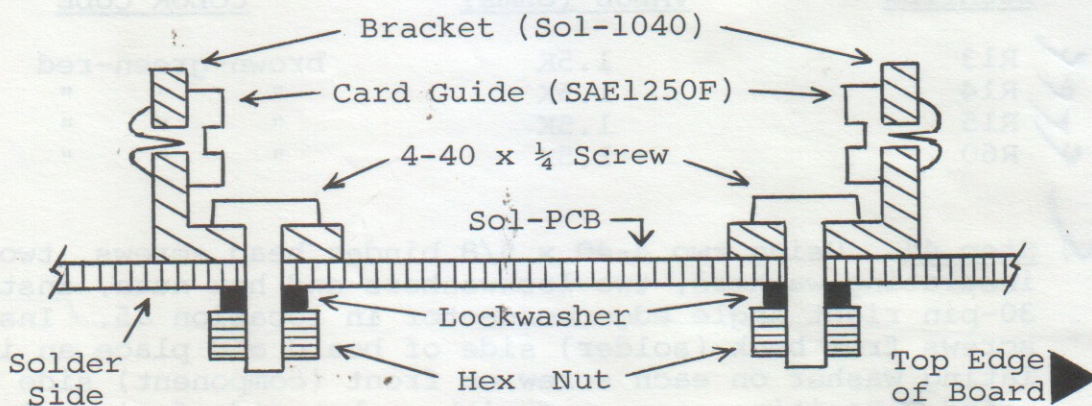

Figure 3-11. Personality module bracket/guide installation (Viewed from right end of Sol-PCB).
- (✓) Step 45. Using four 4-40 x $\frac{1}{4}$ binder head screws, lockwashers and hex nuts, install two brackets (Sol-1040) for personality module in area to right of J5. Position brackets over the mounting holes as shown in Figure 3-11. Insert screws from front (component) side of board, place lockwasher on each screw on back (solder) side of board, start nuts and tighten.
- (✓) Step 46. Attach plastic card guide (SAE1250F) to each of the brackets installed in Step 45. (See Figure 3-11.) Insert posts on guides into bracket holes and push in until they snap into place.